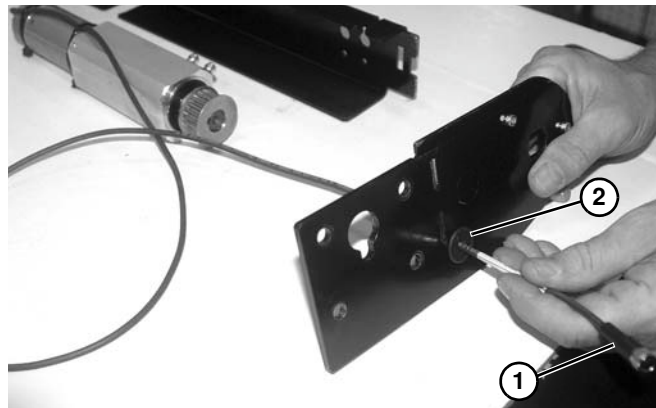

Figure 207
15. Remove end of wiring (**Figure 207, item 1**) through rubber grommet (**Figure 207, item 2**) on cover plate.